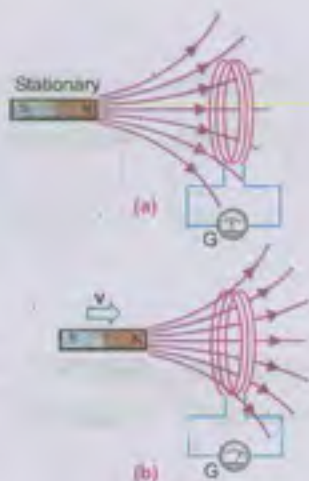

Fig. 15.2
1. Fig. 15.2 (a) shows a bar magnet and a coil of wire to which a galvanometer is connected. When there is no relative motion between the magnet and the coil, the galvanometer indicates no current in the circuit. As soon as the bar magnet is moved towards the coil, a current appears in it. (Fig. 15.2 b). As the magnet is moved, the magnetic flux through the coil changes, and this changing flux produces the induced current in the coil. When the magnet moves away from the coil, a current is again induced but now in opposite direction. The current would also be induced if the magnets were held stationary and the coil is moved.